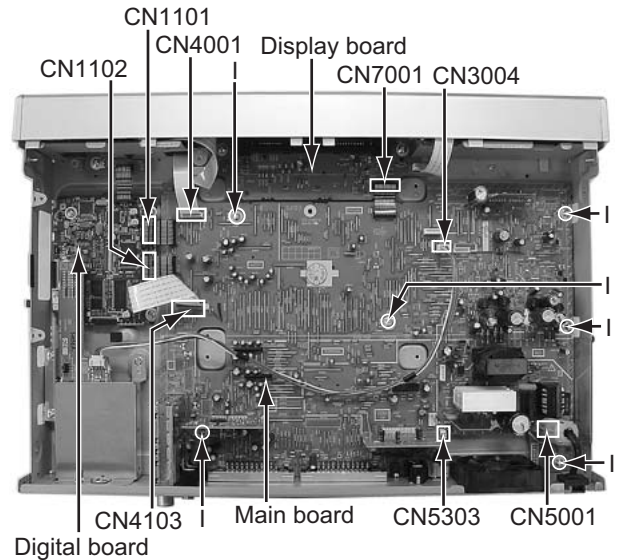
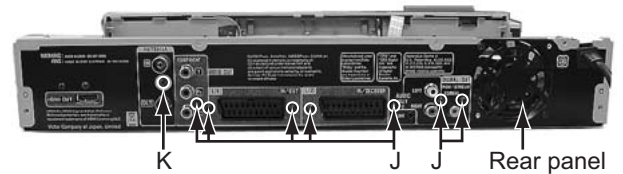

Fig.8
Fig.9
3.1.5 Remove the main board (See figure 8, figure 9)